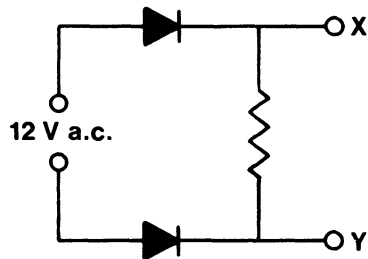

FIG. 3.36
28. Consider the circuit in Fig. 3.36: